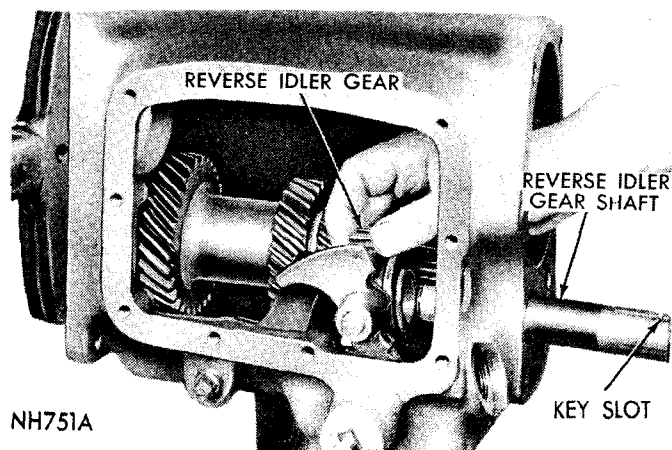
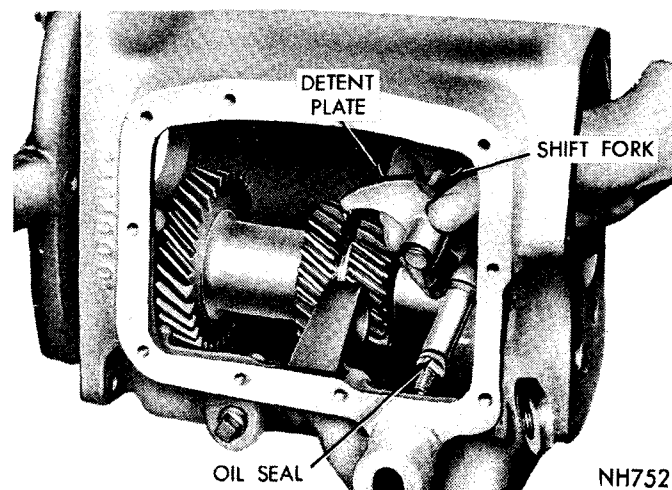

Fig. 24—Removing or Installing Reverse Idler Gear
Fig. 25—Removing or Installing Reverse Shift Fork and Lever
key from shaft. In some cases, a 7/16 deep socket and/or a 3 inch extension may be required to press shaft completely out of the case (Fig. 24).
(3) Remove any burrs from shaft so as not to damage the case bore, then carefully push reverse gearshift lever shaft inward and remove it from case (Fig. 25). Retrieve detent ball from bottom of case. Remove shift fork from shaft and detent plate.
(1) Install a new oil seal "O" ring on reverse gear-shift lever shaft. Coat lever shaft with Multi-purpose grease, then carefully install lever shaft into bore in the case (Fig. 25). Install reverse fork in the lever.
(2) Install reverse detent spring retainer and gasket. Torque to 50 foot-pounds. Insert ball and spring. Install plug and gasket. Torque to 24 foot-pounds.
(3) Place reverse idler gear shaft in position in end of case, and drive it in far enough to position reverse idler gear on protruding end of shaft with fork slot toward rear (Fig. 24). At same time, engage slot with reverse shift fork.
(4) With reverse idler gear correctly positioned, drive reverse gear shaft into case far enough to install woodruff key. Drive shaft in flush with end of case (Fig. 24).
(5) Install back-up light switch and gasket. Torque to 15 foot-pounds.